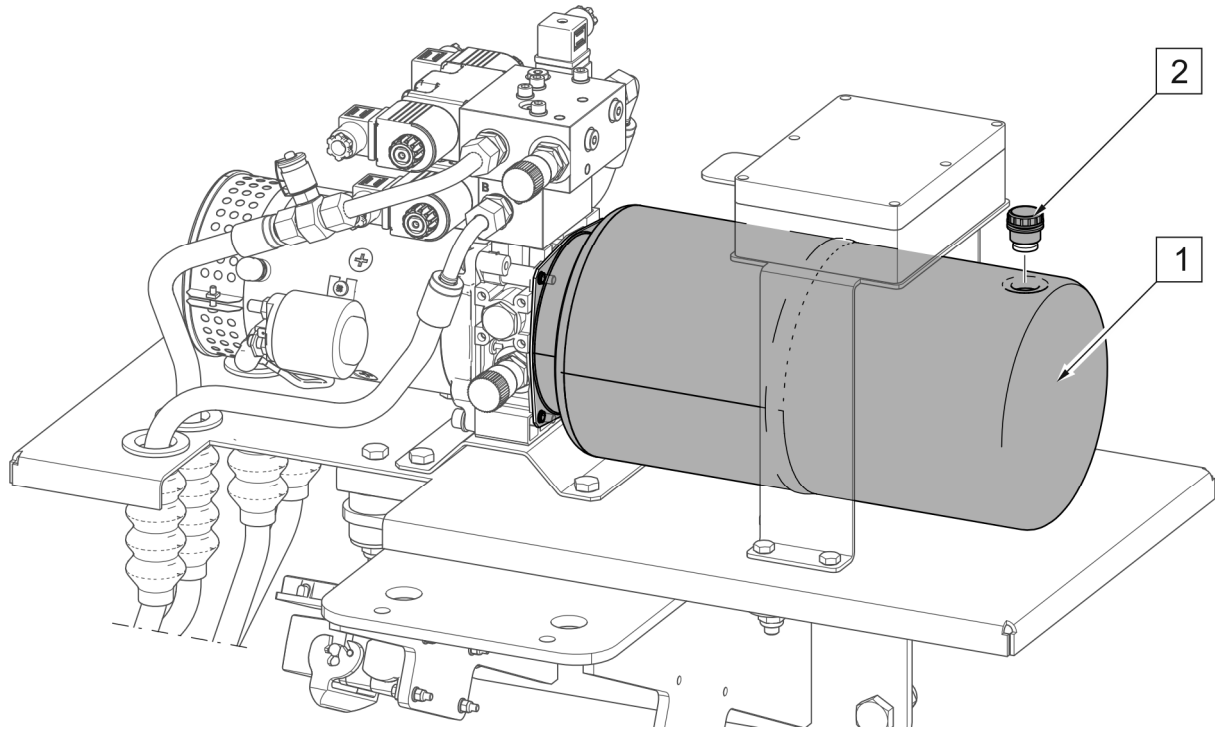

FIG. 5.4 Check oil level in Power-Pack system (option)
The oil tank of the electro-hydraulic power supply (FIG. 5.4) is located under the housing (3).